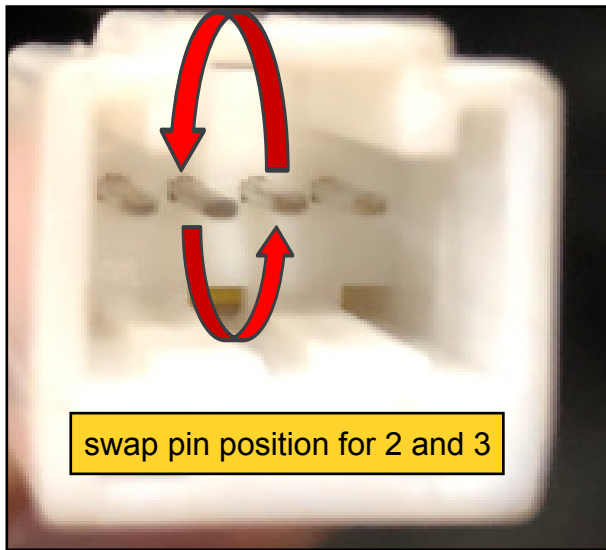

fig. 5a
3. Swap the position of the terminals (fig 5a) place the white/black stripe wire in location 2 and the Pink/black stripe wire in location 3 .